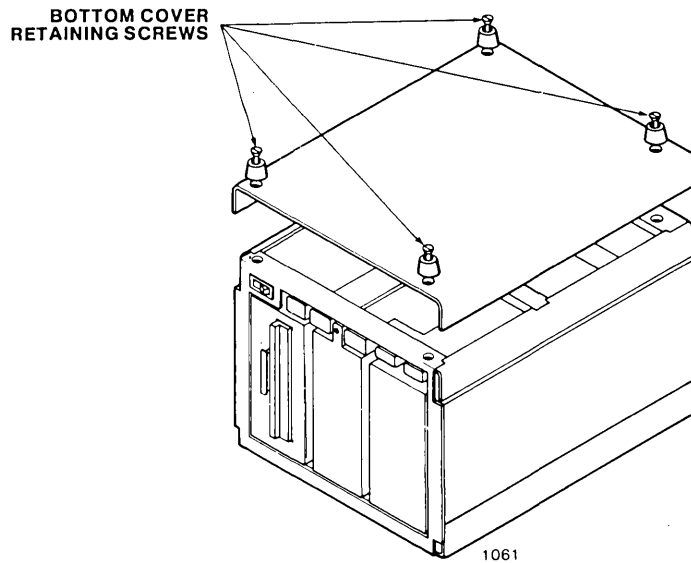

Figure 4-6. Bottom Cover Retaining Screw Locations
6. Turn the chassis onto its top to gain access to the four screws securing the bottom cover to the chassis (see Figure 4-6). As Figure 4-6 shows, the four screws are at the four corners of the bottom cover; one is inside each of the four bumpers.